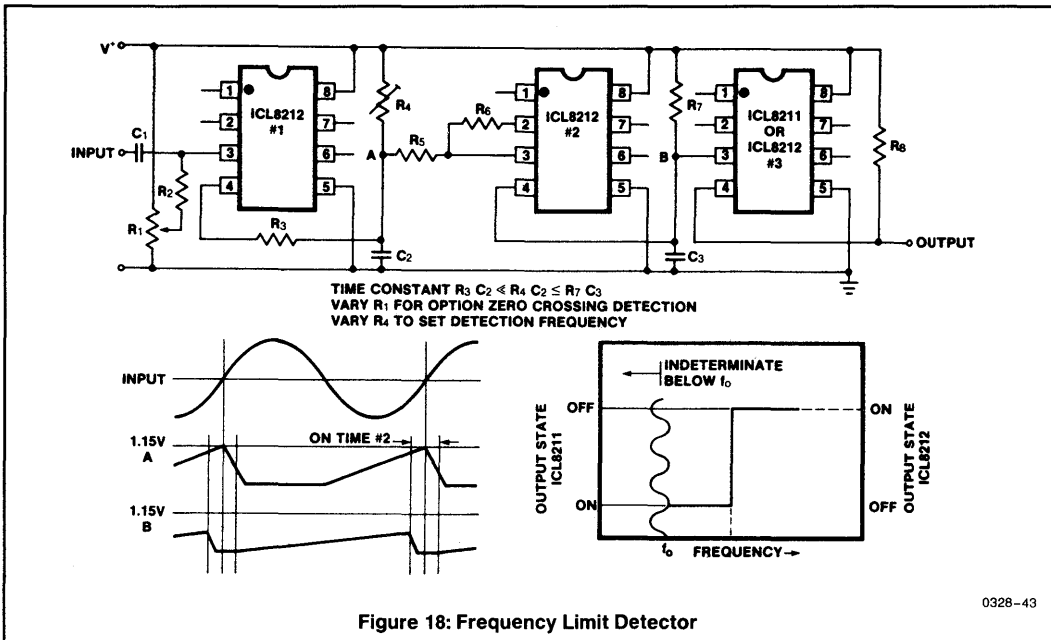

Figure 18: Frequency Limit Detector
h) Frequency Limit Detector (Figure 18)